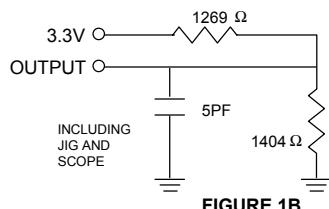

FIGURE 1B
5. Transition is measured $\pm 500\text{mV}$ from steady state with $C_L = 5\text{pF}$ as shown in Figure 1B.
10. Transition is measured $\pm 500\text{mV}$ from steady state with $C_L = 5\text{pF}$ as shown in Figure 1B. The parameter is guaranteed but not 100% tested.